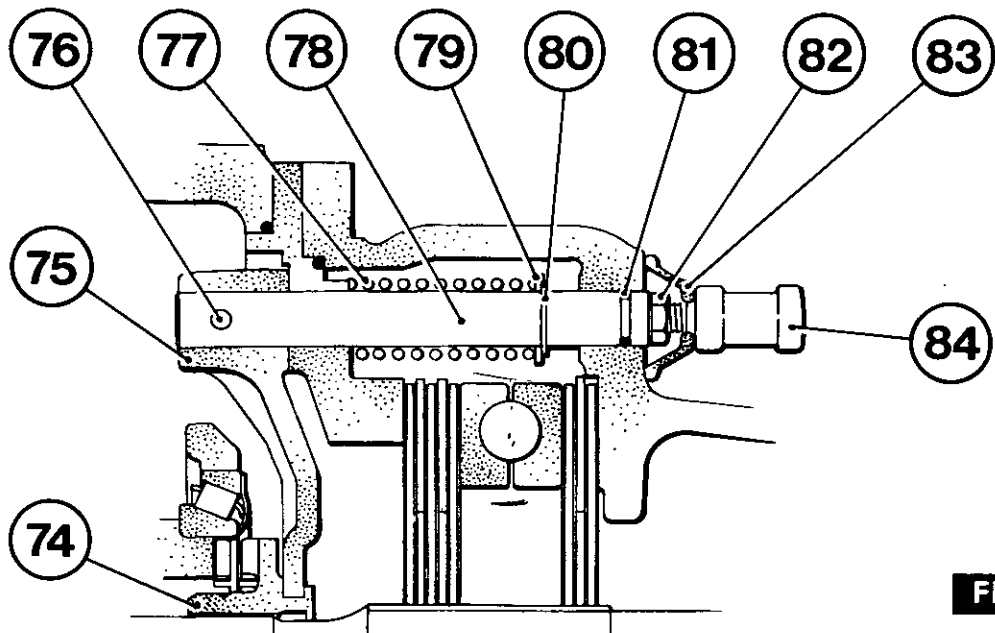

FIG. 23
3. Fig. 23. Lift up the rubber seal (83) and release the locknut (82) securing the actuator fork (84) to the shaft (78) then rotate the fork out of engagement with the pedal (71). Fully unscrew the fork from the shaft, complete with its locknut and rubber seal.
5. Push the shaft (78) upwards and withdraw it from the trumpet housing, complete with the spring (77) washer (79) circlip (80) and 'O' ring (81).
1. Fig. 23. Lift up the rubber seal (83) covering the actuator fork locknut (82). Slacken the locknut, then rotate the fork (84) out of engagement with the pedal (71). Fully unscrew the fork from the shaft (77) complete with its locknut and seal.
3. Apply a small quantity of either Loctite Grade 'A' or 'AV', or Casco 'ML15' to the threads of the actuator fork, then screw the actuator fully into the shaft. Unscrew the actuator fork (84) until it will engage the end of the differential lock pedal, when the pedal is fully raised. Fully tighten the locknut and push the rubber seal into place.